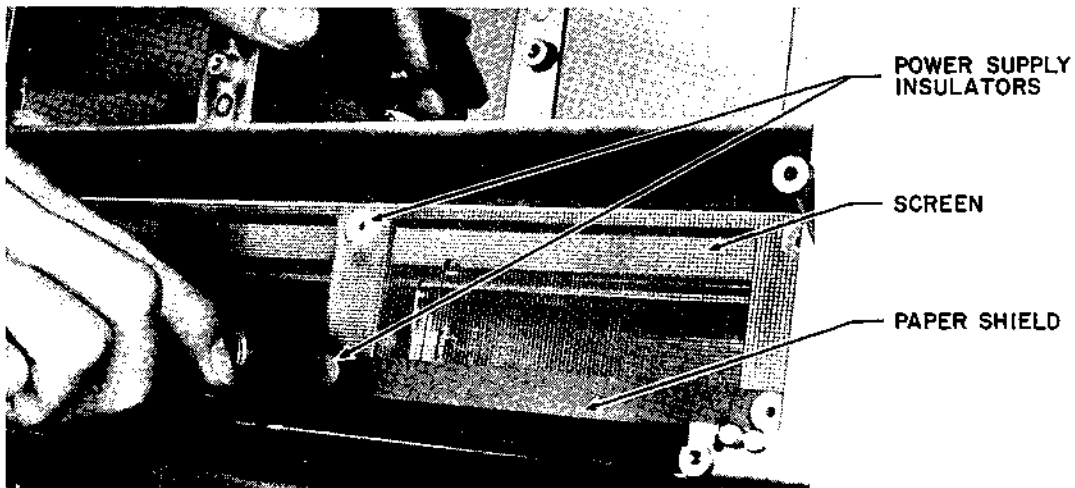

Figure 5-56 SCREEN AND SHIELD INSTALLATION
6. Study Figure 5-56. Locate and install the screen, paper shield insulator, and six (6) power supply insulators as follows (all directions of up, down, right or left, etc. are as you view it):
(c). Bend the paper shield insulator where scored, and install it along the bottom of the cavity using the remaining three power supply insulators, inserted as above. Figure 5-56 shows the center of these three insulators being installed.